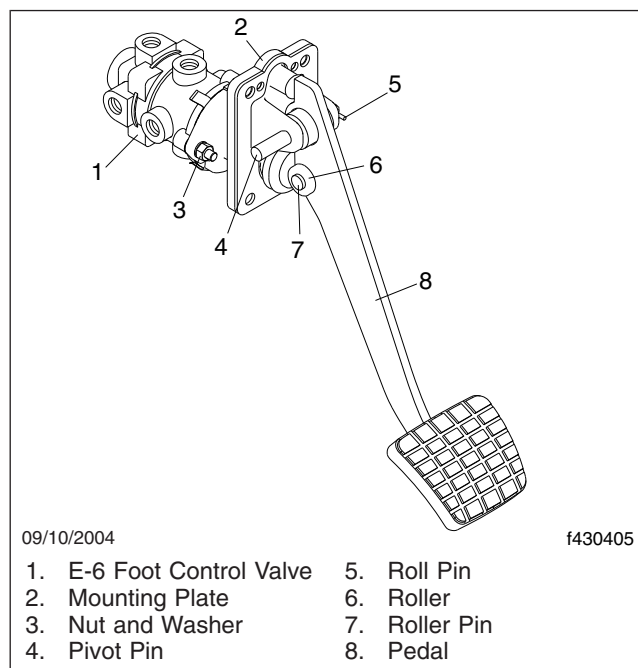

Fig. 10, Brake Pedal and Valve Assembly
2. Remove the roll pin from the brake pedal pivot pin. See Fig. 10.